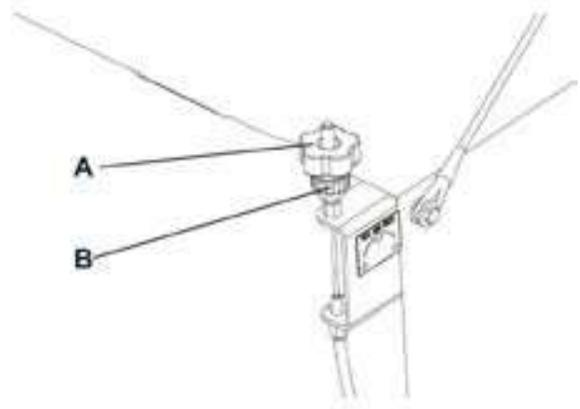

Figure2
2) Turn the ignition key (71) to "0".
4) Loosen the knob (A, fig. 2) on the left side of the machine.
5) Turn the knob (B, fig. 2) and remind that: